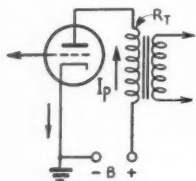

Fig. 3
In Fig. 3 the only resistance affecting the plate voltage is that of the transformer primary winding,  $R_t$ , so
*Example:* In Fig. 3,